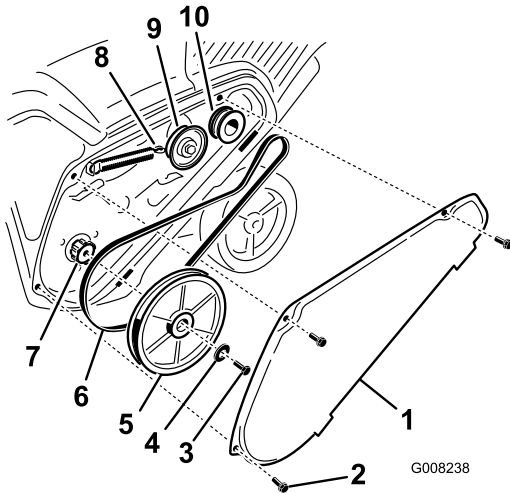

Figure 26
1. Remove the drive-belt cover by removing the 3 bolts as shown in Figure 26.
2. Unhook the brake spring from the idler arm to release the belt tension (Figure 26).
3. Remove the screw and curved washer that holds the rotor pulley (Figure 26).
4. Remove the rotor pulley and the drive belt (Figure 26).
Note: Route the new drive belt first around the engine pulley, then the idler pulley, and finally around the loose rotor pulley positioned just above the rotor shaft (Figure 26).
6. Install the rotor pulley onto the rotor shaft (Figure 26).
7. Install the curved washer and the rotor-pulley bolt and tighten them securely (Figure 26).